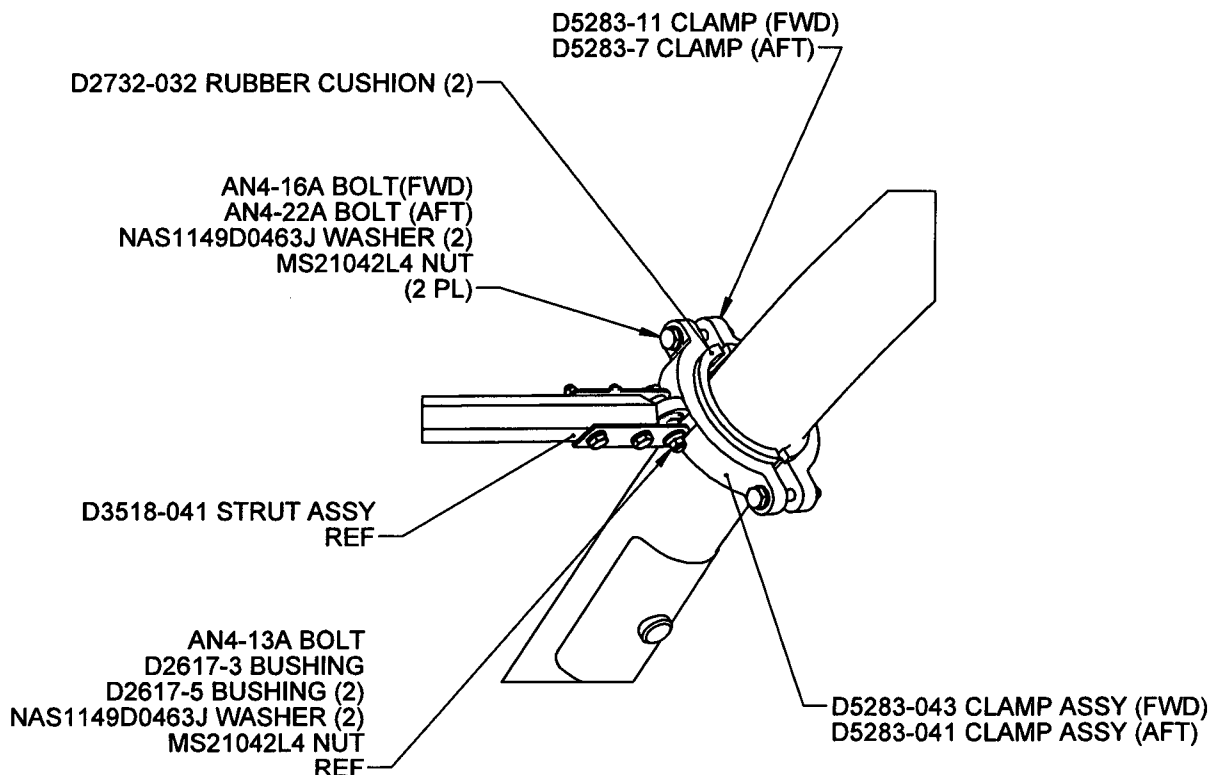

FIGURE 2: CLAMP INSTALLATION
- 4.3 Loosely install the D5283-041/D5283-7 Clamp on the Aft Crosstube and the D5283-043/D5283-11 Clamp on the Fwd Crosstube using the supplied hardware at the locations shown in IIN-D119-756/IIN-D119-756-EASA. D2732-032 Rubber Cushions must be installed under each side of the clamps. See Figure 2.
- 4.5 Pivot the Basket upwards and attach the qty (2) D3518-041 Strut Assemblies to the D5283-041/043 Clamps using AN4-13A Bolts, D2617-3 Bushing, D2617-5 Bushings (2), NAS1149D0463J Washers (2) and MS21042L4 Nuts for each Strut. See Figure 2.